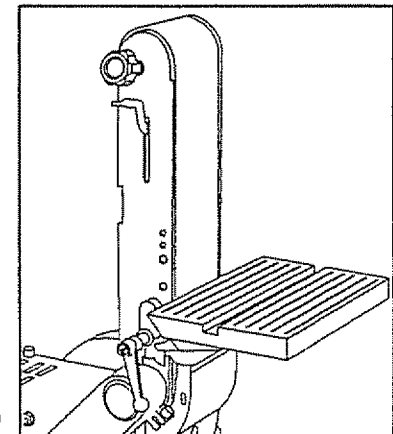

Fig. 16
■ Attach the disc table for vertical sanding. (see figure 16)